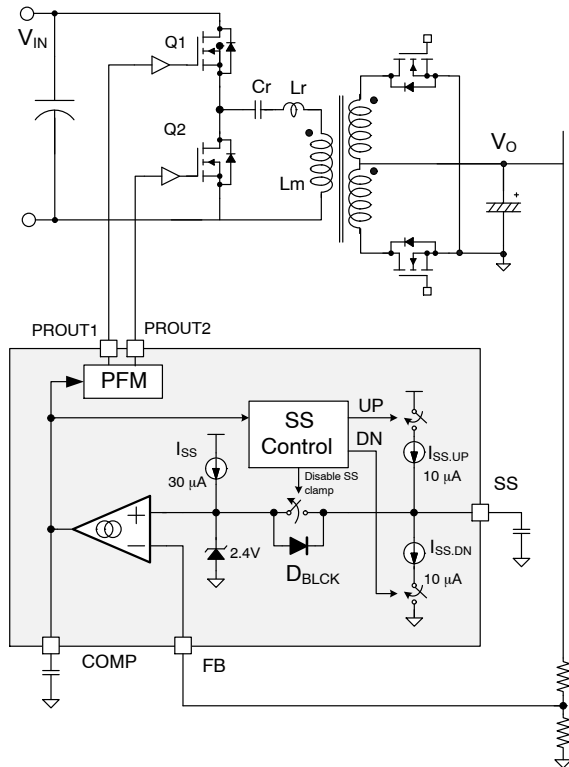

Figure 68. Schematic of Closed Loop Soft-Start
Figure 68 shows the simplified circuit block for feedback control and closed loop soft-start. During normal, steady state operation, the Soft-Start (SS) pin is connected to the non-inverting input of the error amplifier which is clamped at 2.4 V. The feedback loop operates such that the sensed output voltage is same as the SS pin voltage. During startup, an internal current source ( $I_{SS,T}$ ) charges the SS capacitor and SS pin voltage progressively increases. Therefore, the output voltage also rises monotonically as a result of closed loop SS control.